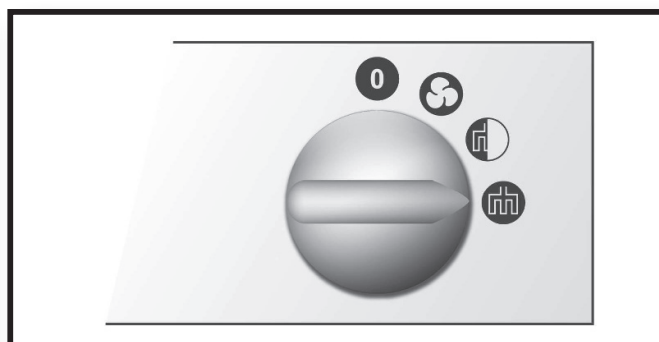

Fig. 7
- ▶ 2nd degree of heating: Fig. 7.